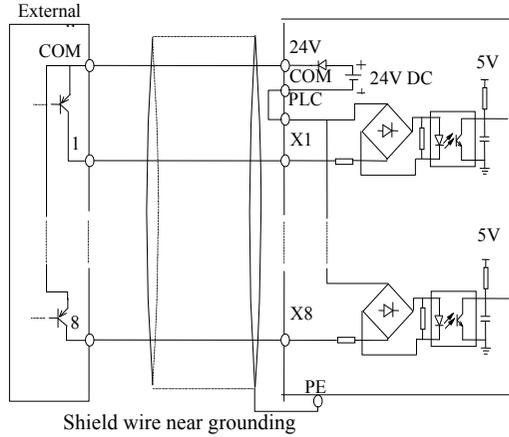

Fig. 2-23 Drain connection method by using inverter's internal +24 V power supply (in 3R75GB/31R5PB~3004GB/35R5PB only X1~X5)
2) Inverter's internal +24 V power supply is used and the external controller uses NPN transistors whose common emitters are connected, as shown in Figure 2-23 (Attention: be sure to disconnect the cable JP1 between PLC and 24V for models of 3R75GB~3004GB, and disconnect the wiring cable between PLC and 24V for models of 35R5GB/37R5PB~3500G, short circuit terminal PLC and COM).